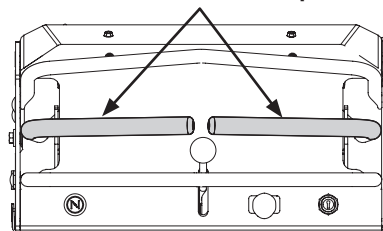

Fig. 9
1. Ensure the RH and LH drive control levers are in the neutral position and the parking brake is disengaged (Fig. 9).